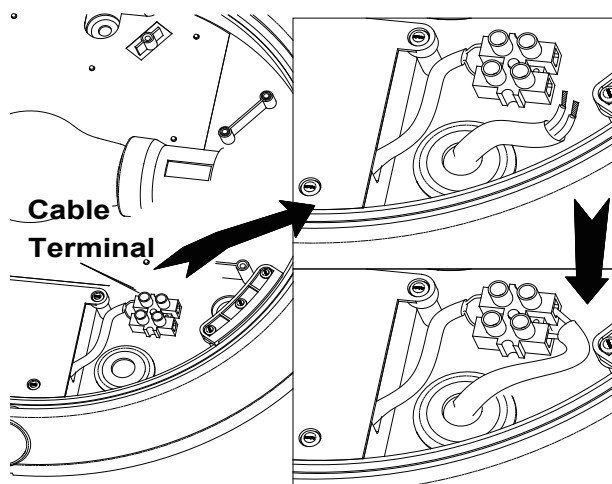

Fig. 3
- Get the cable through the rubber and connect the cable correctly in the terminal (Ref. to Fig.3).